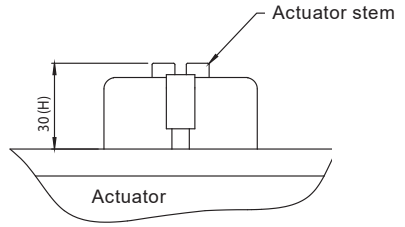

Fig. 14 Actuator stem Height
Choose correct holes according to actuator stem height (H) See Figure 14 (both ends)